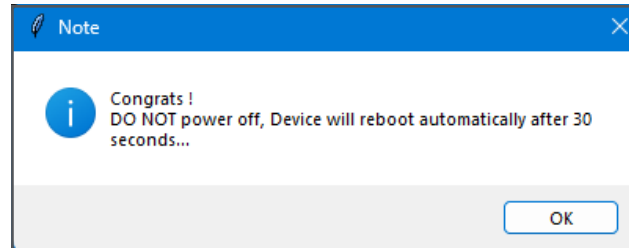

Figure 39: Reboot Message
7. After the progress bar indicates that the firmware update is 100% complete (about 10 minutes), the message shown in *Figure 39* below will be displayed. Note that the AT620 will automatically reboot in 30 seconds.